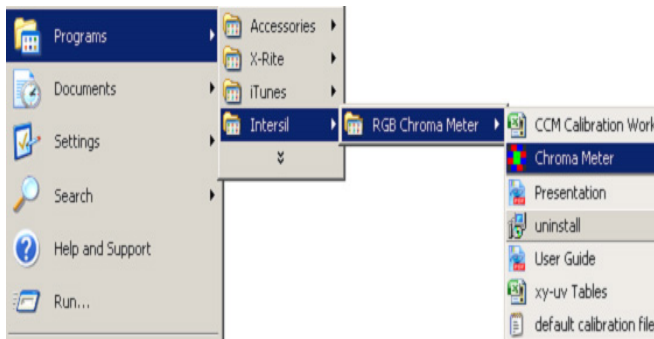

FIGURE 8. INSTALLATION READY TO INSTALL SCREEN
- B) **Launching the RGB GUI** - Once the installation is complete, click "Finish" to launch the RGB GUI. If you wish to launch from your PC desktop, use the path shown in Figure 8. (Start → Program → Intersil → RGB Chroma Meter → Chroma Meter.
3. To open the CCM Worksheet, go to the "Start" menu, (Start → Intersil → RGB Chroma Meter → Chroma Meter → CCM Worksheet). The CCM Worksheet contains the coefficient for the specific evaluation board (Figure 8, but choose CCM Worksheet Excel).